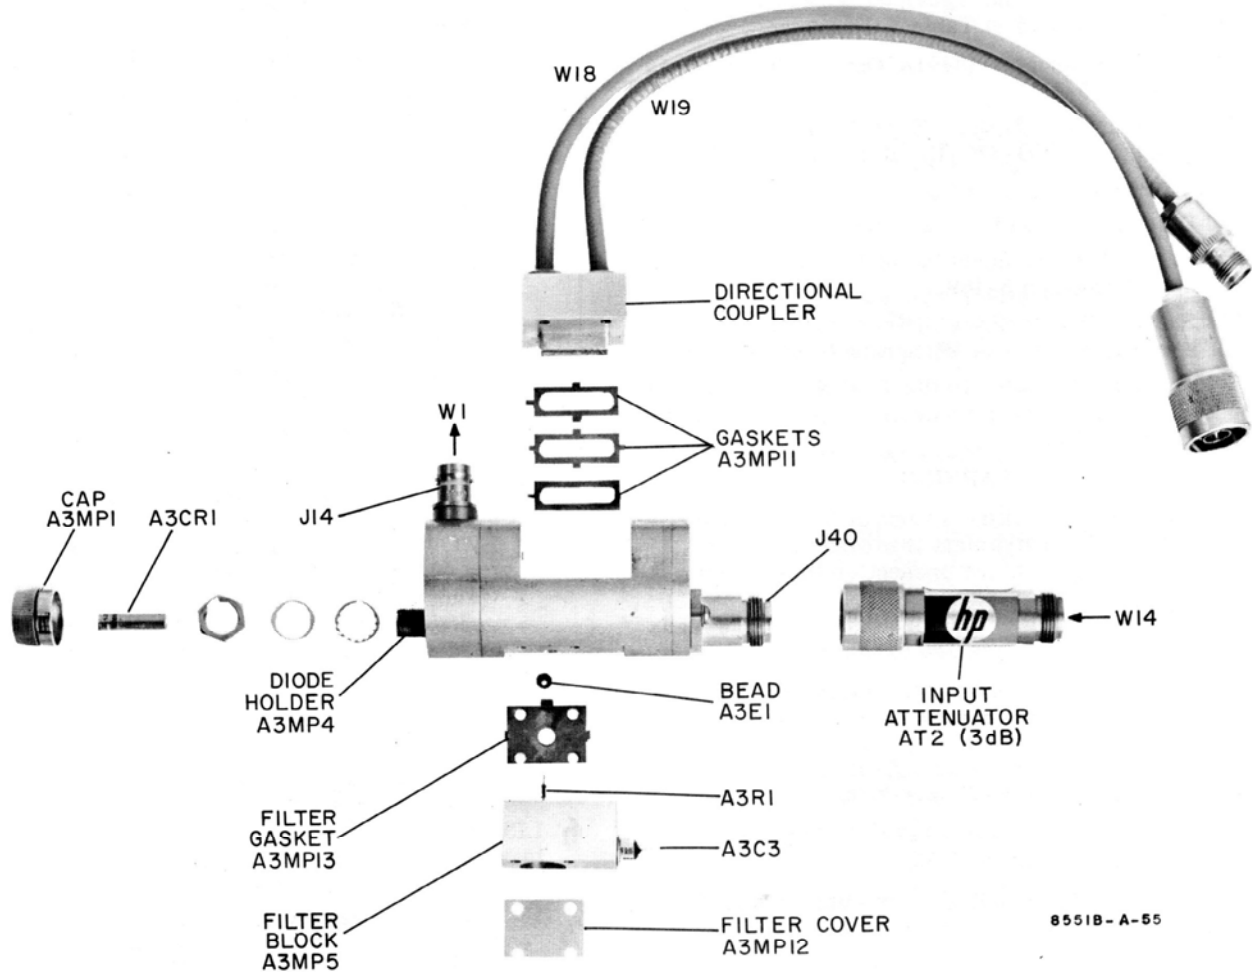

Figure 5-26. Coaxial Mixer Assembly A3, Exploded View
- b. Remove Mixer Diode Cap A3MP1 (Figure 5-26).
- e. Remove machine screws (4) securing Filter Block A3MP5 to mixer body (Figure 5-26).
- (1) Watch for a polyiron bead that can drop out, and place it in a safe place.
- (2) Place screws, washers, filter cover and gasket in a safe place.
- (3) Note orientation of A3R1 in relation to Filter Block A3MP5.